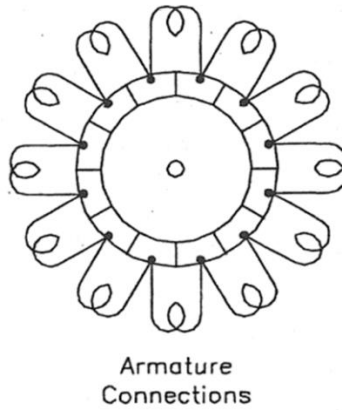

Figure 2 - Armature winding forming a closed loop.
4. The armature consists of coils of insulated winding wire wound in semi-enclosed slots in the armature. The two ends of each coil are connected to two adjacent segments on the commutator so that the complete armature winding forms a closed series loop as shown in Figure 2. Many variations in winding design are possible, and consideration of the types is beyond the scope of this course, but you should be aware that the position of the carbon brushes is not the same in all series motors.